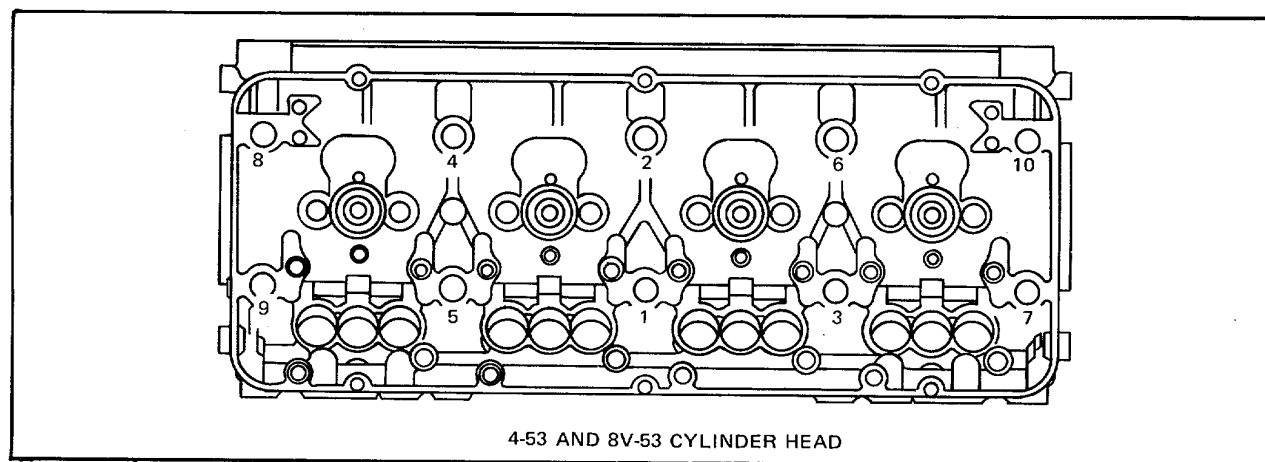

Figure 7. Cylinder Head Bolt Tightening Sequence
8. Tighten the bolts to 170-180 lb ft (231-244 Nm) torque in 50 lb ft (68 Nm) increments with a torque wrench, as in the sequence shown in Fig. 7. Repeat the tightening sequence at least once, because the first bolts tightened in the sequence tend to lose significant clamp load during tightening of the remaining bolts. Apply a steady pressure for 2 or 3 seconds at the prescribed torque to allow the bolts to turn while the gaskets yield to their final designed thickness. Begin on the cam follower side of the head to take up tension in the push rod springs. Tighten the bolts to the high side of the torque specification, but do not exceed the limit or the bolts may stretch beyond their elastic limits. Attempting to tighten the bolts in one step may result in trouble and consequent loss of time in diagnosis and correction of difficulties, such as compression leaks, when the engine is put into operation.